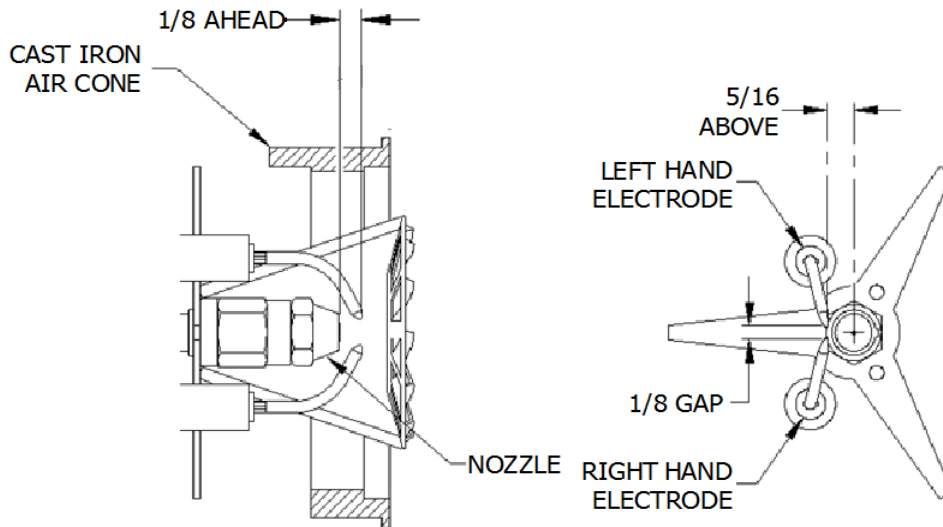
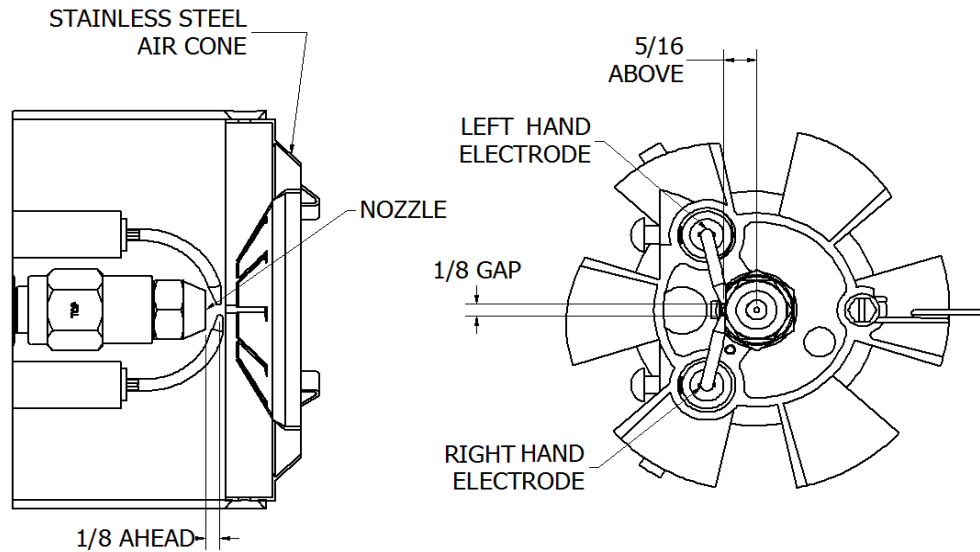

Figure 14–EH Electrode Positions, Factory settings
Figure 15–EHASR Electrode Positions, Factory settings
- Identify which burner model you have, then measure and verify that the electrode spacing is per Figure 14 or Figure 15 on page 27, if not correct to factory settings.